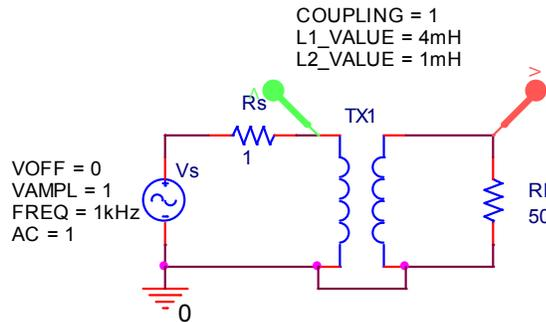

Figure C-3.
- Set up the circuit pictured in Figure C-3 in *Capture*.